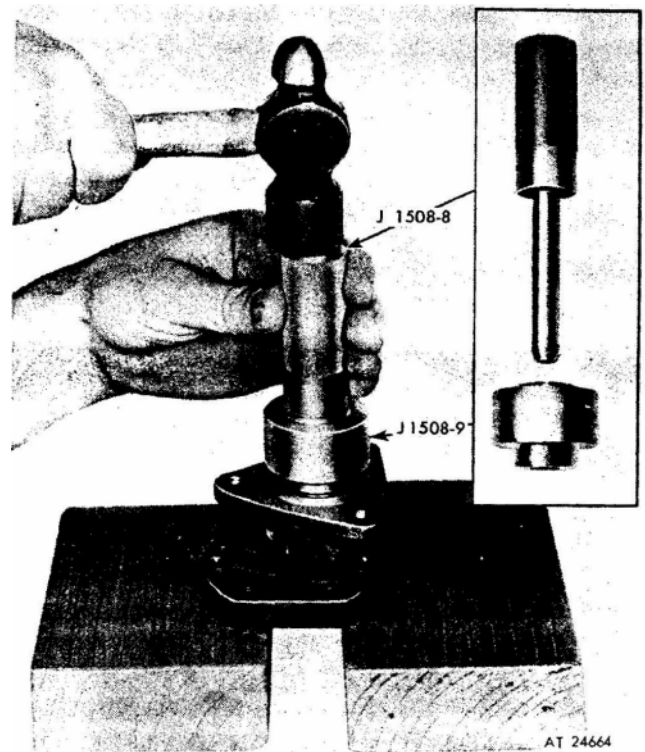

Figure 7. Installing outer oil seal in pump body.
c. Place the adaptor J 1508-9 on the pilot end of the installer with the shorter end of the adaptor against the shoulder on the installer. Position the outer oil seal on the adaptor with the lip of the seal facing the adaptor, then insert the pilot of the installer into the pump so the seal starts straight in the pump flange and drive seal into pump body until the shoulder of the adaptor contacts the body. See figure 7.